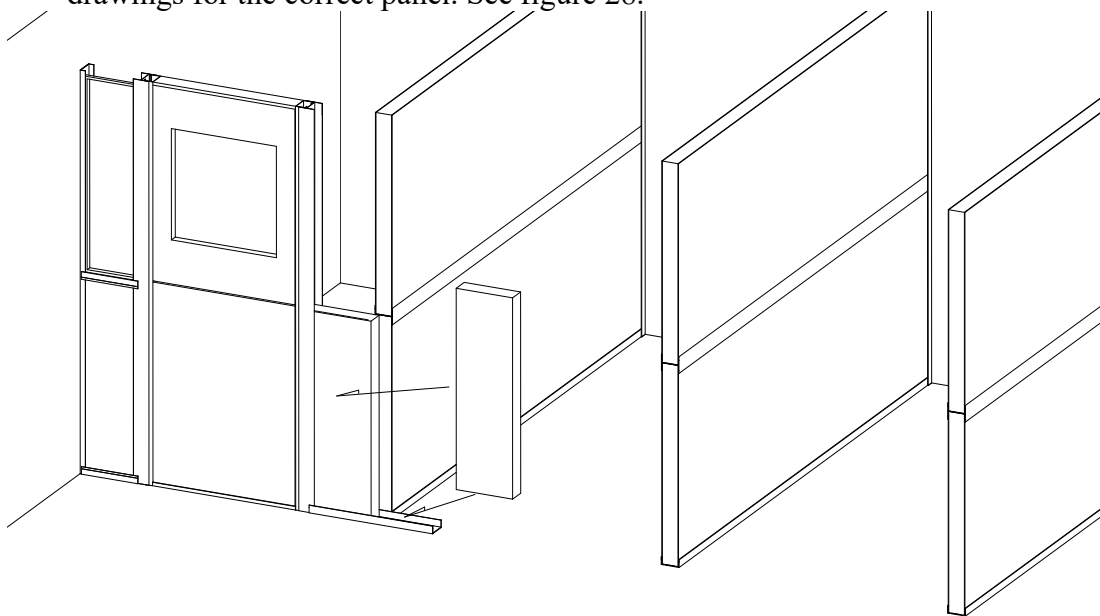

Figure 28
13. Insert a filler panel in to the “D” and “A” channels installed in steps 10 and 11. See your drawings for the correct panel. See figure 28.